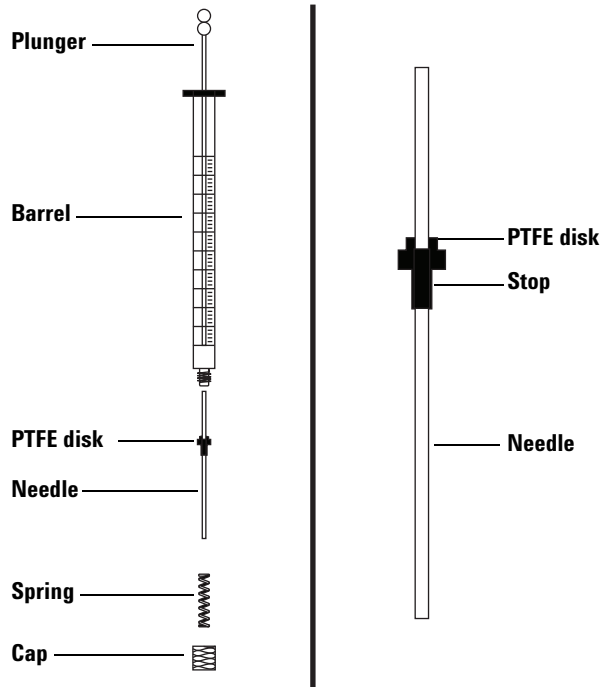

Figure 76 Syringe parts
To insert a needle into a syringe barrel (Figure 76):
- 2 Make sure the needle has a PTFE disk (Figure 76). If the syringe barrel does not have the PTFE disk, use the instructions in the syringe box to wrap the needle yourself.